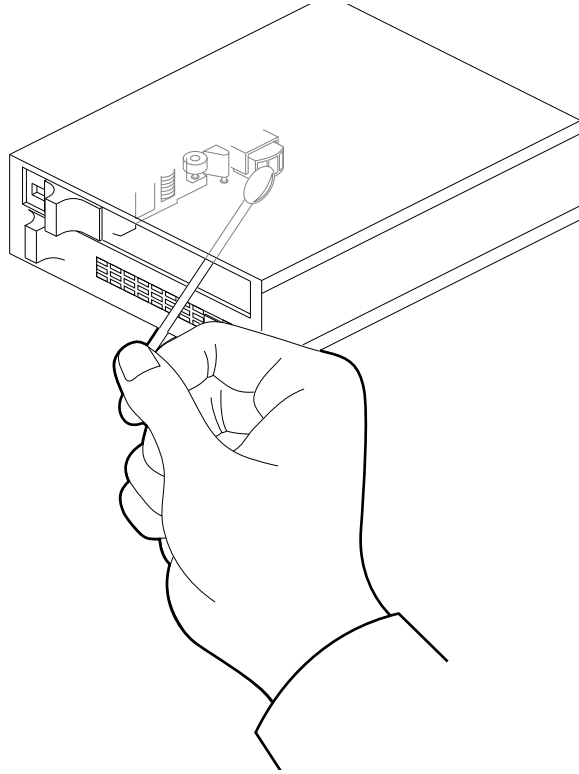

Figure D-3 Tape Head Cleaning
3. Dip a clean, nonfibrous cotton swab in either tape head cleaning fluid or Freon-TF and wipe the tape head (see Figure D-3).